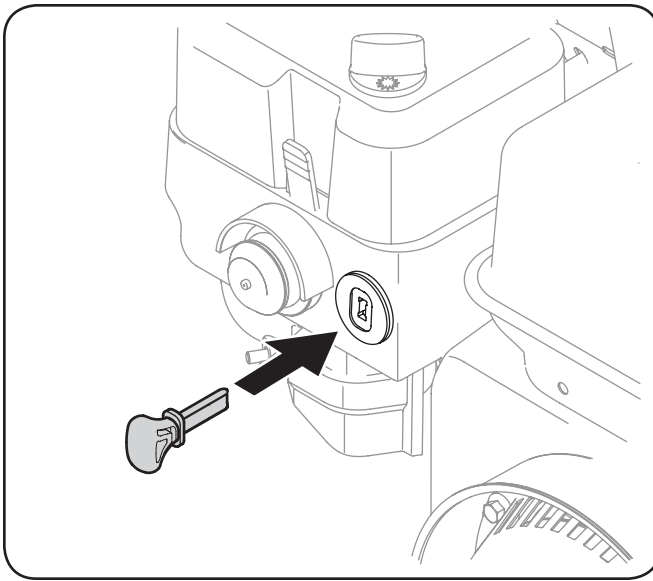

Figure 5-2
2. Insert key into slot. Make sure it snaps into place. Do not attempt to turn the key. See Figure 5-2.